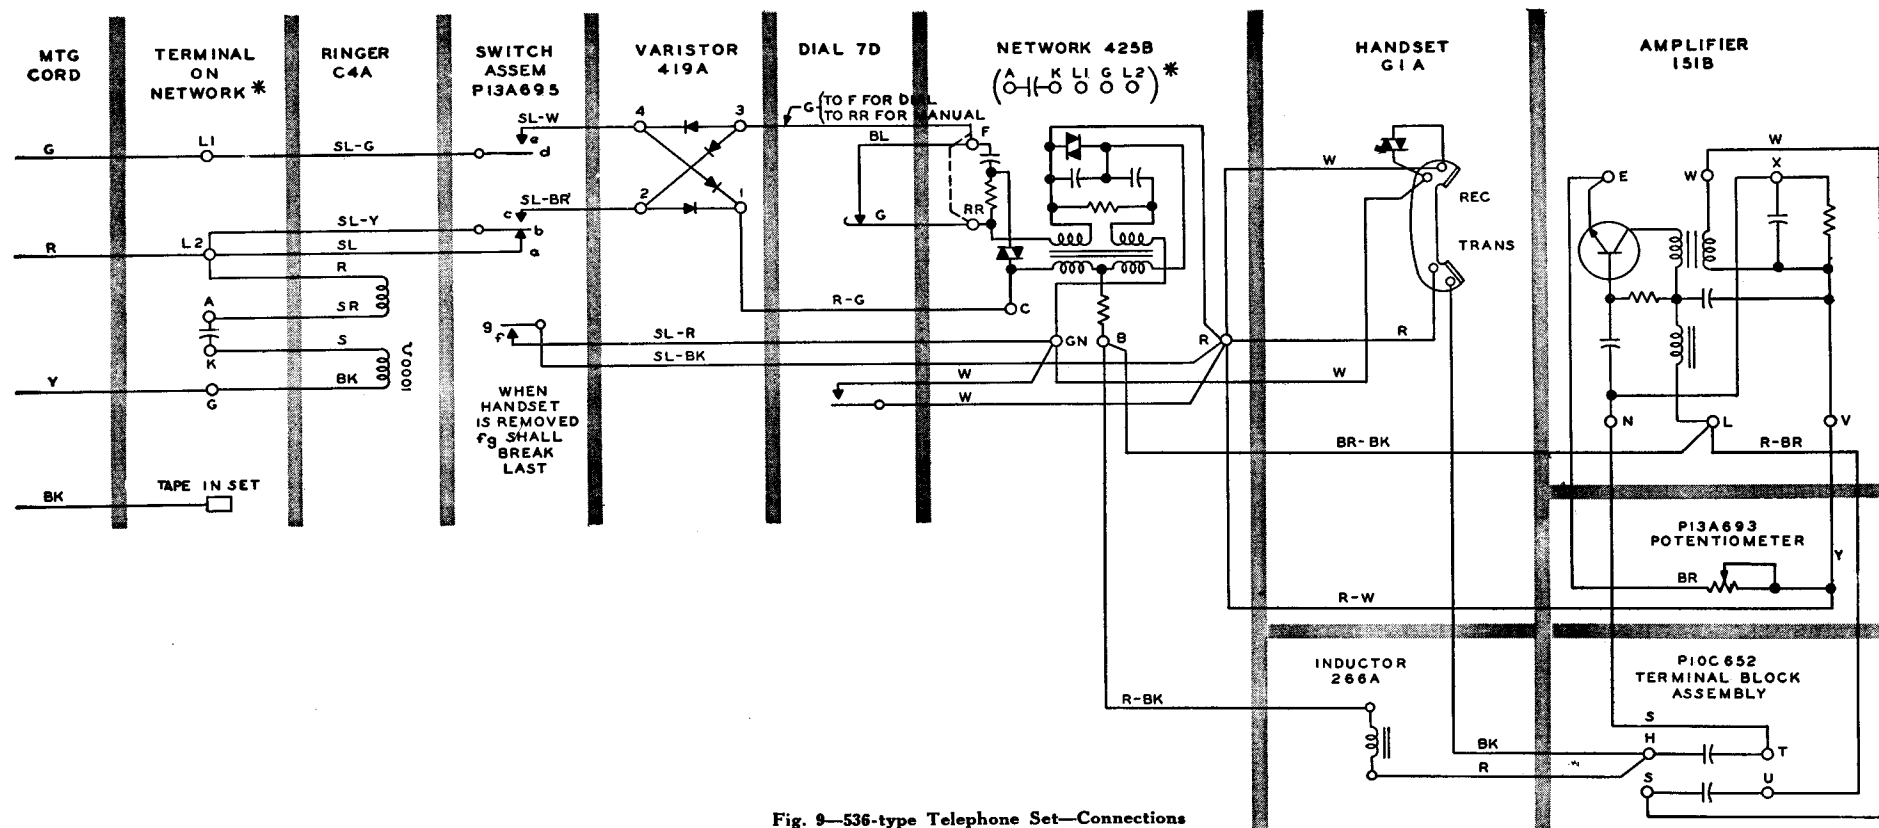

Fig. 9—536-type Telephone Set—Connections
6.07 In the 536-type telephone set the transmitter output is connected through a capacitor (H to T of the terminal block assembly) to the input of the amplifier. The output of the amplifier is connected through a series capacitor (S to U of the terminal block assembly) across the network terminals R and B. The inductor is used to isolate the input from the output of the amplifier. The operating current for the amplifier is obtained from the central office line by connecting the amplifier L and V terminals across network terminals R and B. (See Fig. 9.) Moving the potentiometer knob clockwise should increase amplification.